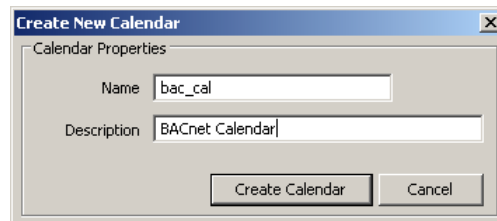

Figure 113: Create New Calendar dialog box.
3. In the Create New Calendar dialog box (as shown in Figure 113) enter Name and Description of the calendar.